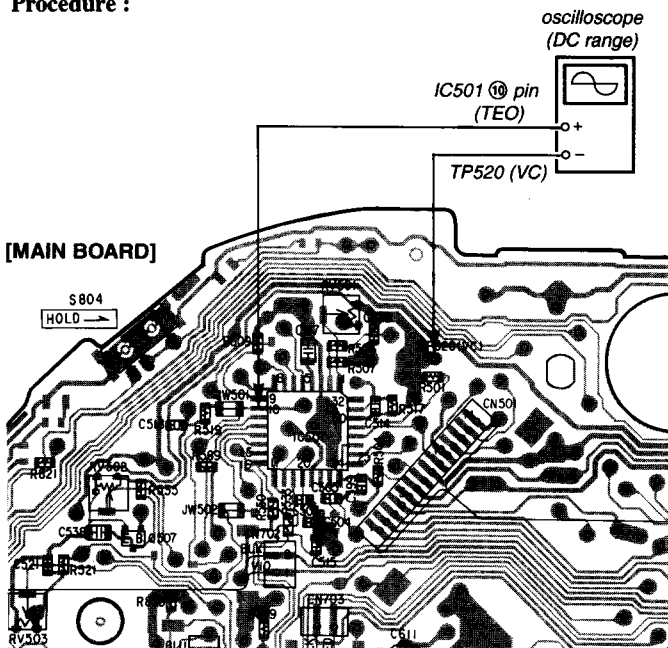

Fig. 5
1. Connect the oscilloscope between IC501 ⑩ pin (TEO) and TP520 (VC) on the MAIN board as shown in Fig. 5.